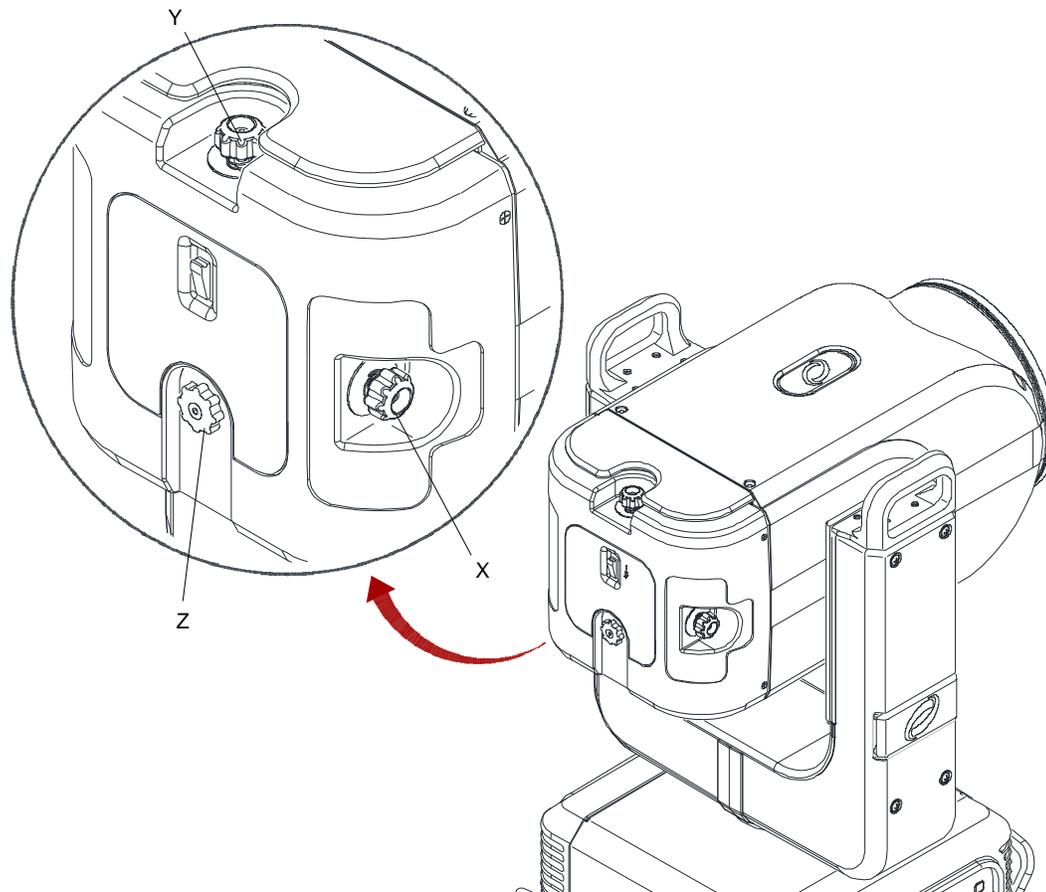

Figure 4-3: Adjusting the Lamp
- Step 6. At backcap, using horizontal (X) and vertical (Y) knobs, adjust hot spot to center of beam (**Figure 4-3**).
- Step 7. Using focus (Z) knob, adjust beam to flatten hot spot.